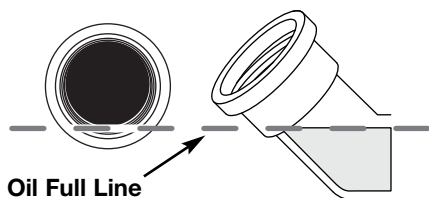
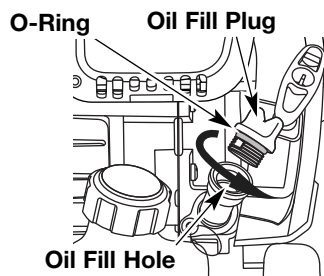

Fig. 12
Fig. 10
2. Remove the oil fill plug from the crankcase (Fig. 10).
3. Look into the oil fill hole (Fig. 10). If the oil level comes up to the first thread, then the oil is full (Fig. 12). If it does not, fill with oil until it does.